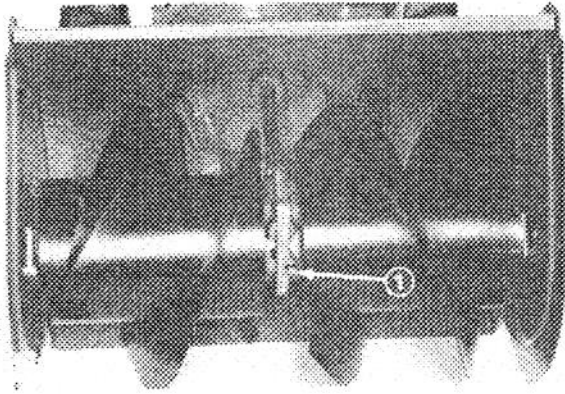

Figure 30
3. Clean area around pipe plug (Fig. 30) so dirt is removed.
4. Put a drain pan below front of auger gear box and remove pipe plug (Fig. 30): refer to Check Auger Gear Box Oil, page 9.
7. Install pipe plug in gear box (Fig. 30).